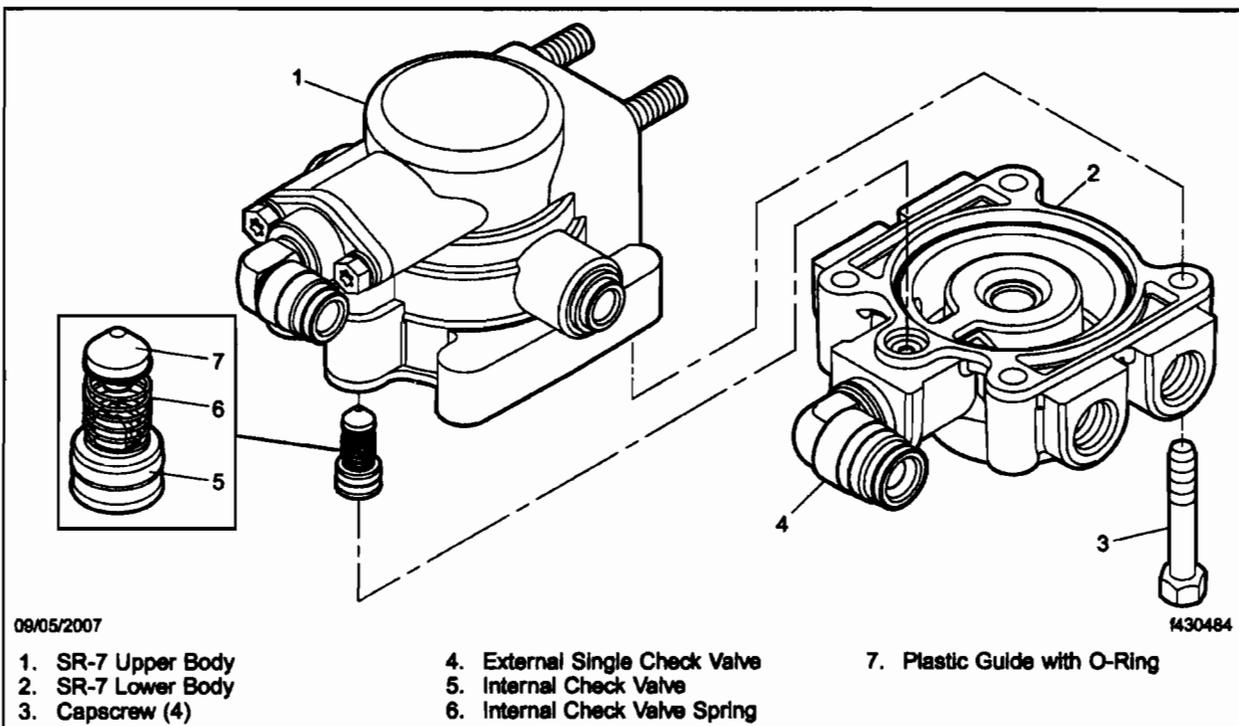

Fig. 3, Replacing the Internal Check Valve
2. Remove the four screws that secure the upper and lower bodies of the SR-7 valve. See Fig. 3. Do not disconnect additional hoses or fittings. The separation between the upper and lower body should be approximately three inches and allow adequate room to install this kit.